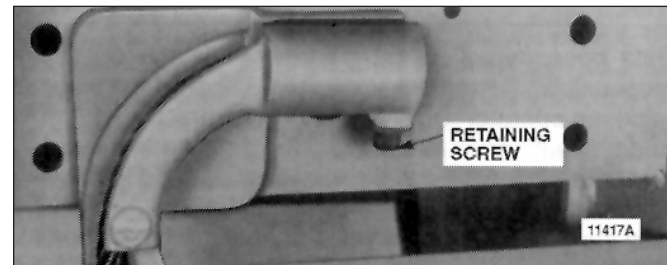

Figure 2-4. Rope End Anchor
- d. **Check Lower Block and Hoisting Cable.** Depress ↓ push button and run lower block to its lowest position. **No less than two wraps shall remain on the drum with the loaded hook in its lowest position, unless hoist is equipped with a lower limit switch in which case no less than one and one half wraps shall remain on the drum.** Also check to see that lower block and rope does not twist excessively. If it does twist to the extent that two ropes rub against each other, disengage rope from the frame anchor and twist rope four or five turns in a direction opposite to that which the block turns. Reconnect rope to anchor (Figure 2-4), holding firmly to eliminate rope twisting back to its original position. Operate hoist up and down a few times. If lower block still rotates, repeat process until twisting is corrected.